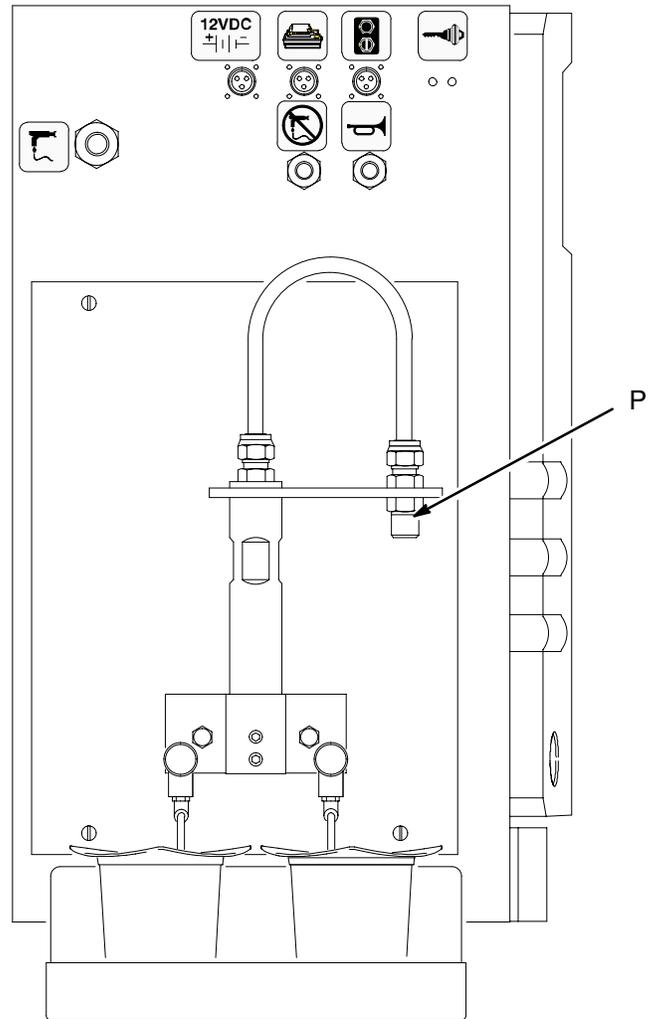

Fig. 4
11. If using a printer, plug the printer cable into the printer cable connector  on the ProMix control. See Fig. 4.
Plug the power cable into the external power connector . See Fig. 4, page 11. Use a 12–18 Vdc, 0.3 amp power supply. Do not exceed the +24 volts maximum applied voltage.
13. If the alarm option is used, connect an air line between the alarm air outlet  on the control and the air inlet on the alarm. See Fig. 4.